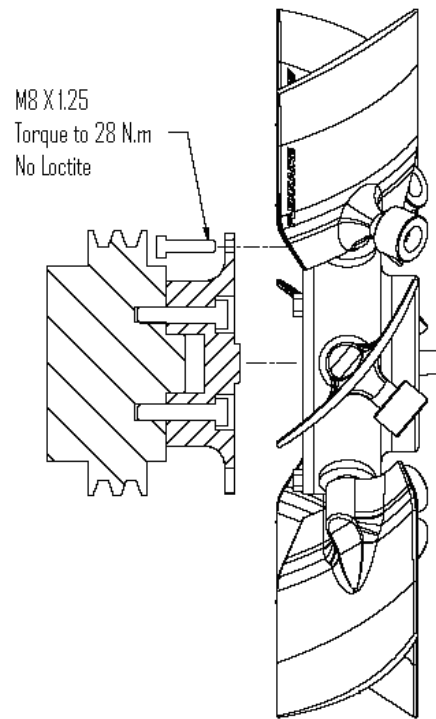

Figure 4
4. Remove the shipping plug from the rear of the fan. Place the Series 1000 fan onto the mounting adapter and torque the M8 bolts to 21 ft-lbs (28 N.m). Do not use loctite. Refer to **Figure 4**.